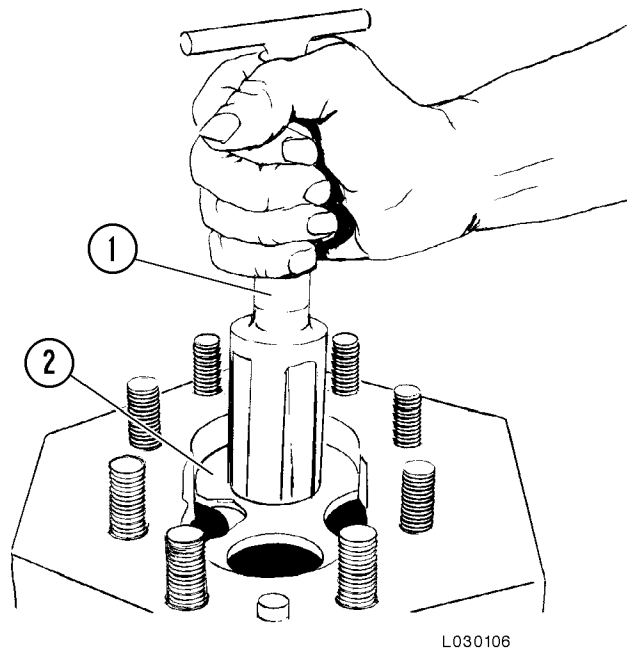

FIGURE 3-10. PRESSURE PLATE REMOVAL
9. To remove bottom pressure plate (2, Figure 3-10), insert an expandable bearing puller (1) in the shaft bore of the plate and tighten it.